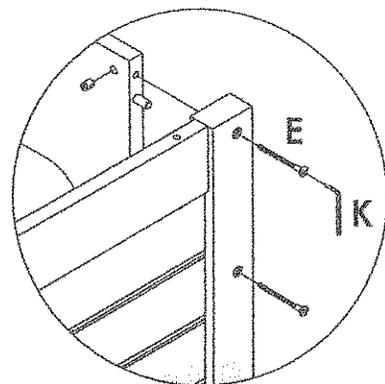

Figure 4
3. Attach rear Bottom Bed Side Rail, Bottom Bed Front & Rear Rail to Bottom Headboards by using JCBC Bolts (E), tighten it up by using an Allen Key (K) as shown in Figure 4.